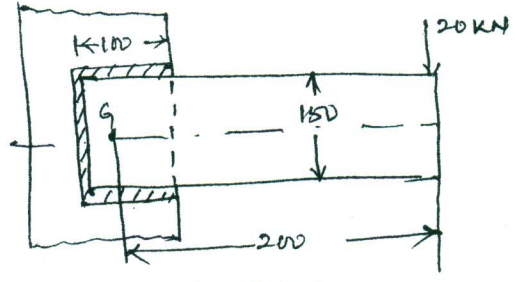

Fig.Q.7(a)
- 7 a. An eccentrically loaded bracket is welded to a support as shown in Fig.Q.7(a). The permissible shear stress for the weld material is 80MPa. Determine the size of the weld. (10 Marks)